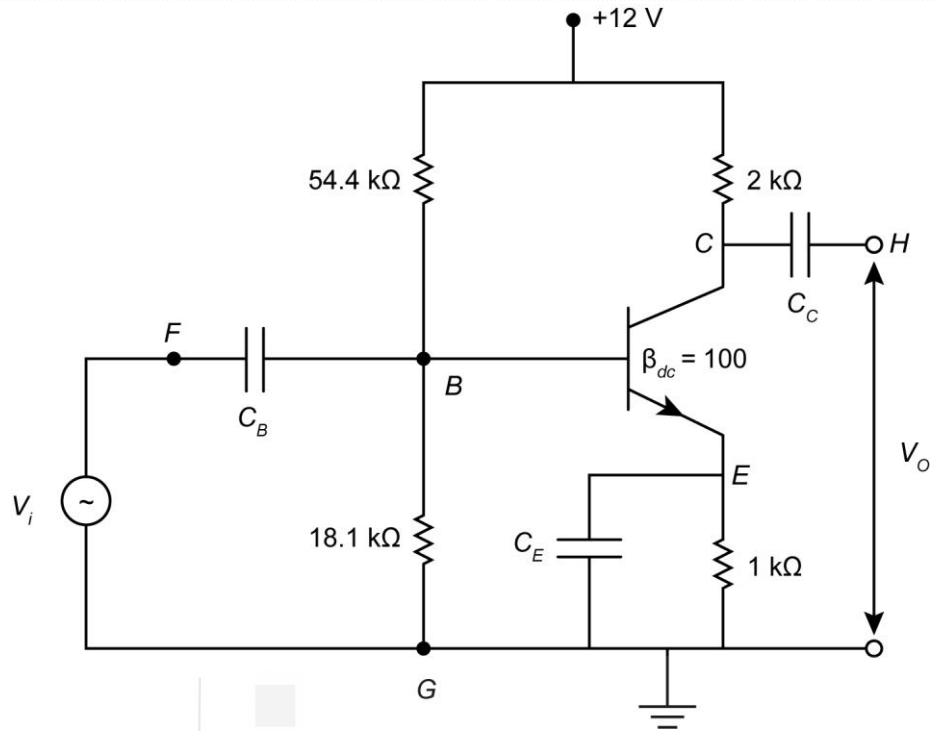

Fig. 7.9: Class A amplifier in a universal bias arrangement.
With these selections, the exact circuit diagram becomes as shown in Fig. 7.9.
2. Now connect the circuit as shown in Fig. 7.9 on a breadboard or by soldering on a printed circuit board (PCB) which will be available in the laboratory.
5. Now connect the high and low output terminals of the signal generator to F and G points shown in Fig. 7.9, respectively.
- Repeat part (a) but now connect resistors of values say 0.5 k Ω , 1 k Ω , 5 k Ω in succession across GH in Fig. 7.9.